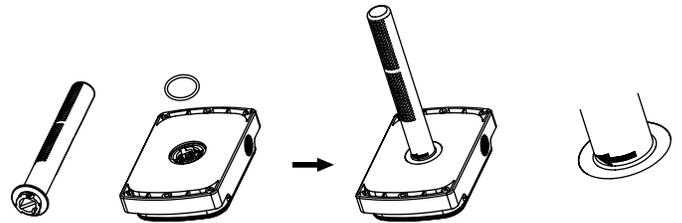

Figure 2A
- First, the probe must be attached to the back of the enclosure as shown in Figure 2A by inserting the provided black seal ring in the groove located on the back of the housing. Next, align the probe latches with the cutouts on the back of the housing and gently turn it according to the direction indicated on the probe until it snaps into place.